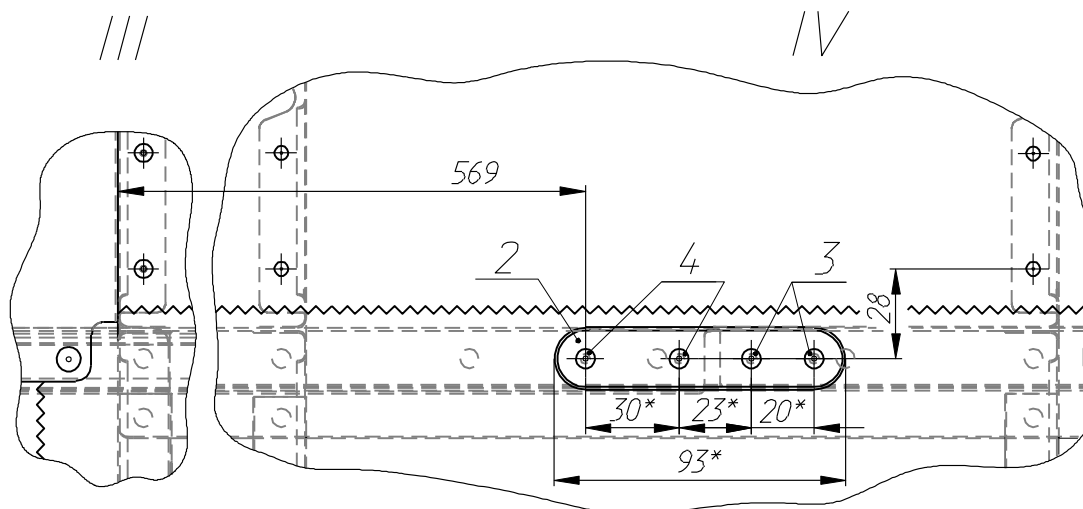

Fig. 4
- 2.1. Mark 2 holes (1 per righthand/lefthand side) on the bottom side of the AMHT at 569 mm distance as shown in fig 4.